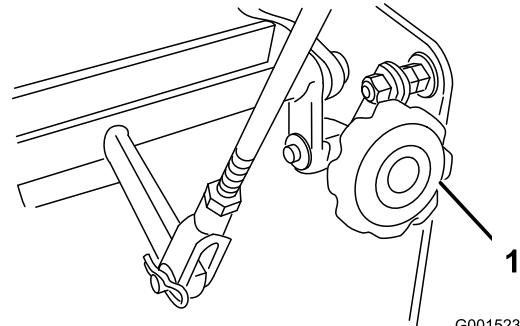

Figure 42
4. If the unit tracks to one side or the other, turn the quick track knob. Turn the knob right to steer right and turn the knob left to steer left (Figure 42).